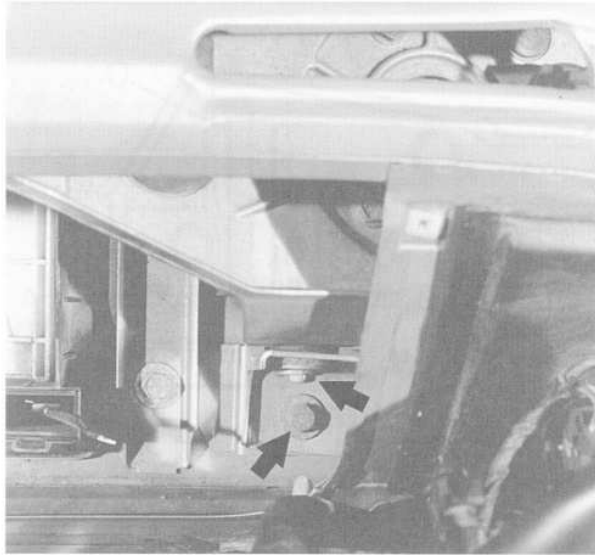

Fig. 8. Wiper console mounting bolts (arrows).
7. Remove bolts from wiper console. See Fig. 8.